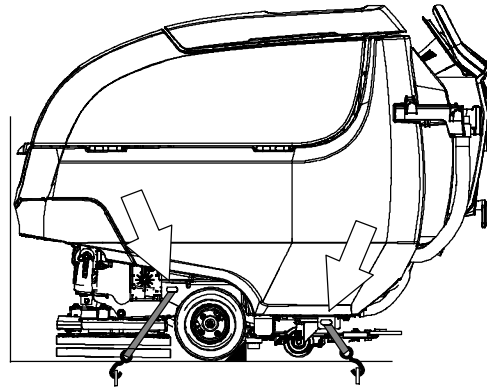

FIG. 135
4. Place a block behind each wheel (Figure 135).
5. Using tie-down straps, secure the machine using the four tie-down brackets located on the machine frame (Figure 135). It may be necessary to install tie-down brackets to the floor of your trailer or truck.